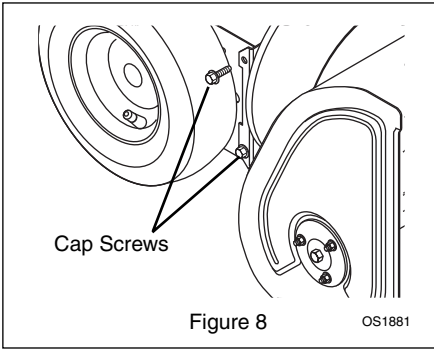

Figure 8
7. Loosen bottom cap screws securing auger/impeller housing to frame (Figure 8).